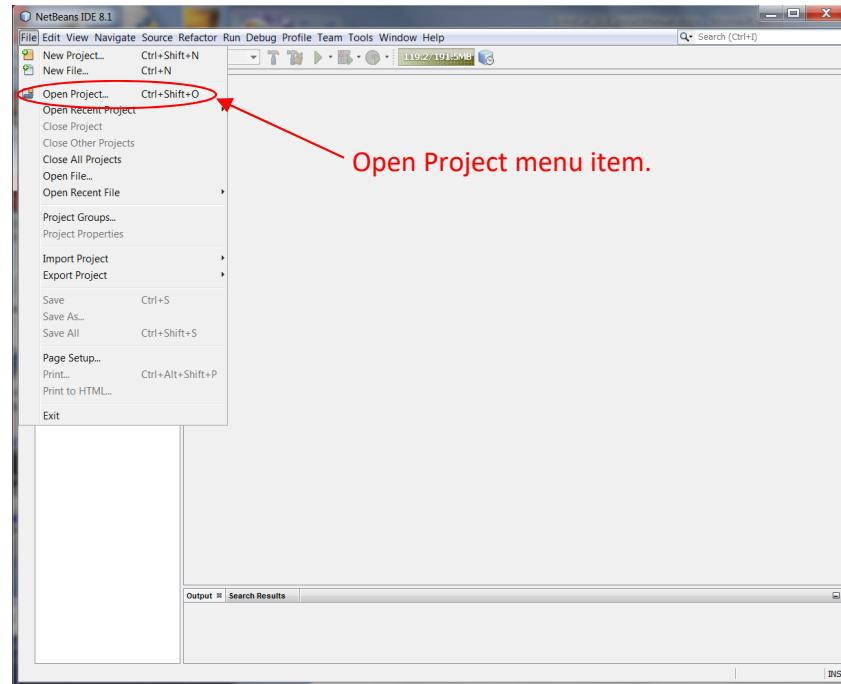

Figure 29: Open Project menu item.
- e. Launch the Netbeans IDE. From the main Netbeans IDE window, select “File/Open Project” menu item to open the *EchoCal* GUI project. (Figure 29)